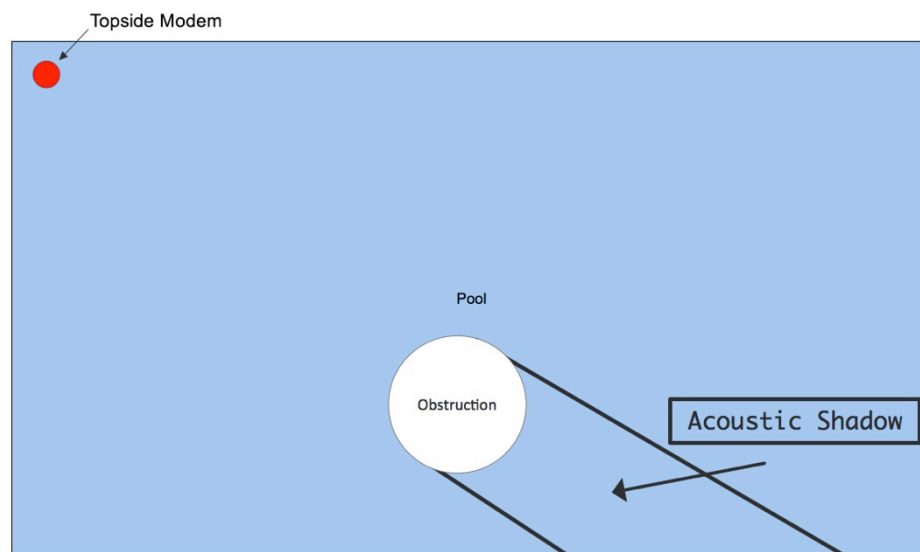

Figure 14: Pool Environment
1. Where possible place the Topside Modem away from the wall (1.0 m – 3 feet) to provide a better acoustic signal path. One way of doing this is to use the handle of a pool vacuum cleaner or similar apparatus and place it over a corner of the pool with the transducer connected mid-way across the corner (Figure 14).